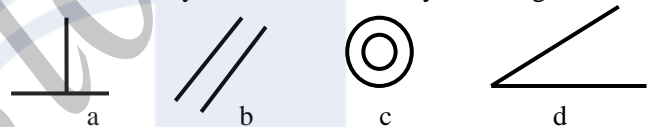

figure 21
39. choose the symbol of concentricity of the figure 21